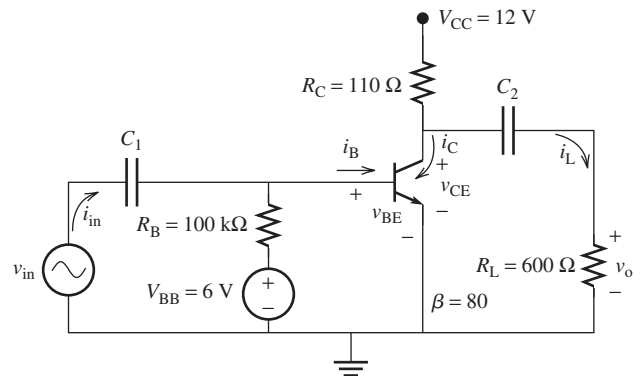

FIGURE P8.46 Biased transistor circuit.
8.46 (B) Find the equivalent AC circuit for the one shown in Figure P8.46.